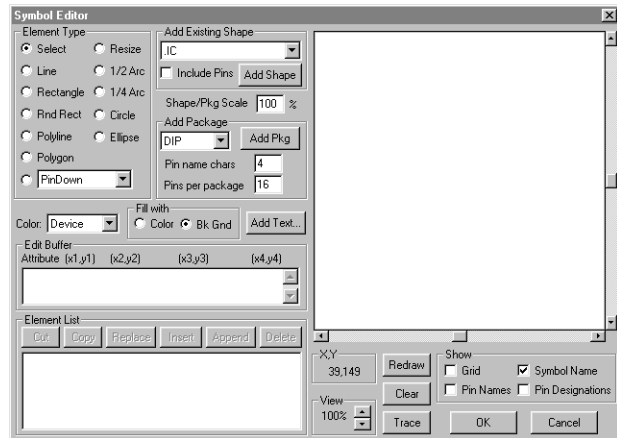

Figure 17.1. Use the Symbol Editor to create or modify schematic symbols.
- 5 Click OK to display the Symbol Editor (Figure 17.1).